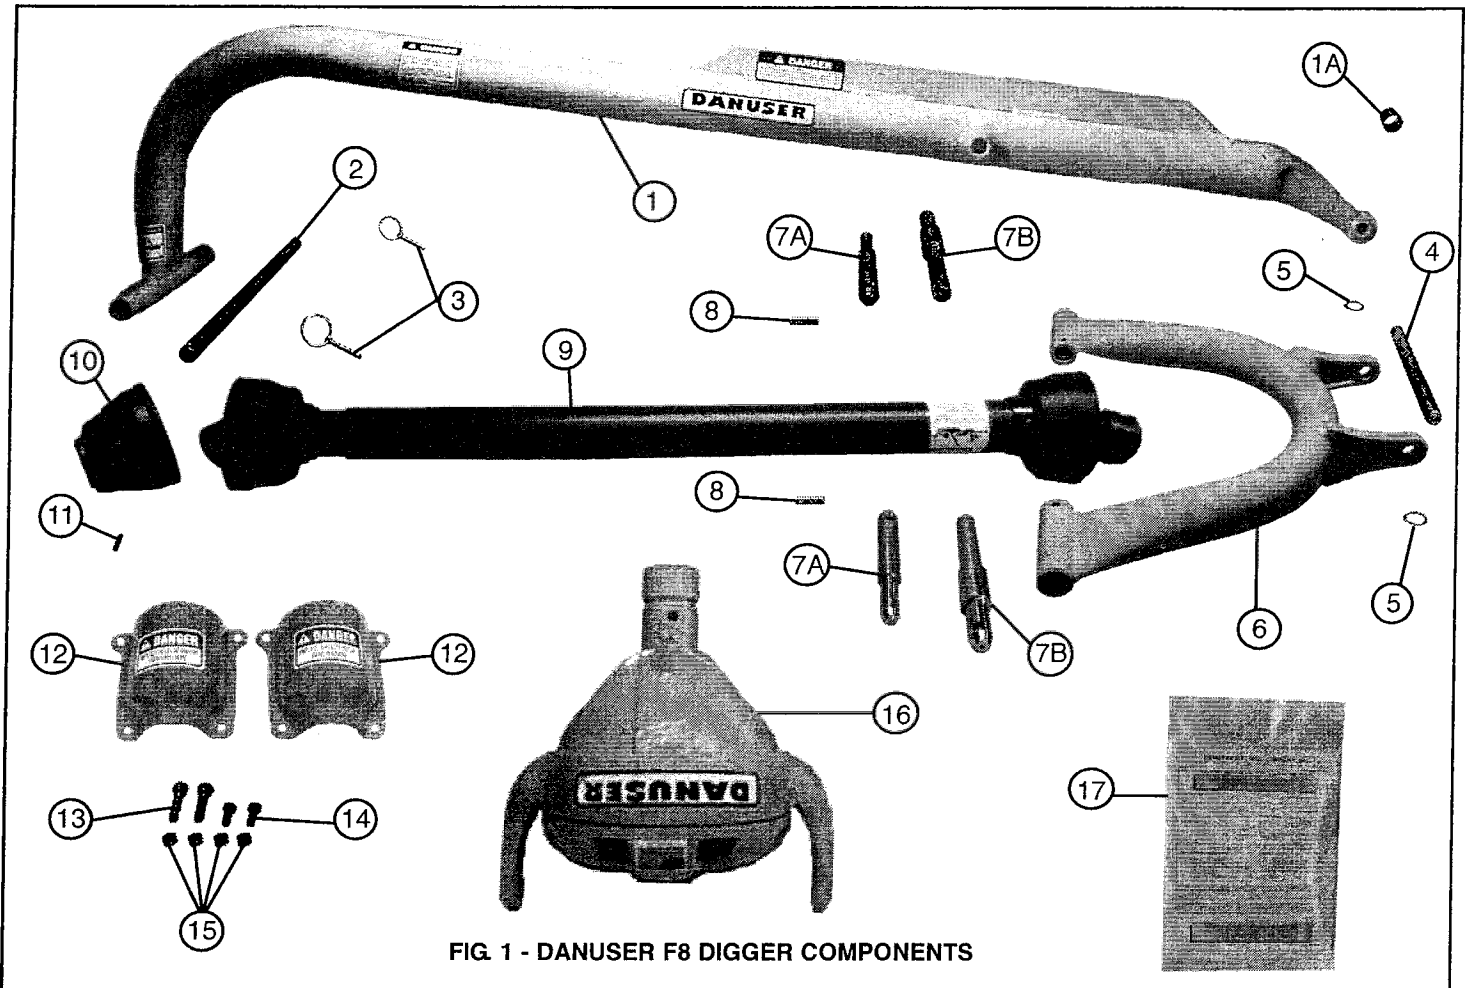

FIG. 1 - DANUSER F8 DIGGER COMPONENTS
Before you begin assembly, open all packaging and compare the contents to the photo (FIG. 1) and shipping list (TABLE 1) below to ensure you have all of the components and your unit has all of the safety guards and safety signs required by current production safety standards. If your unit does not comply, contact Danuser Machine Company, Inc. IMMEDIATELY at (573) 642-2246.